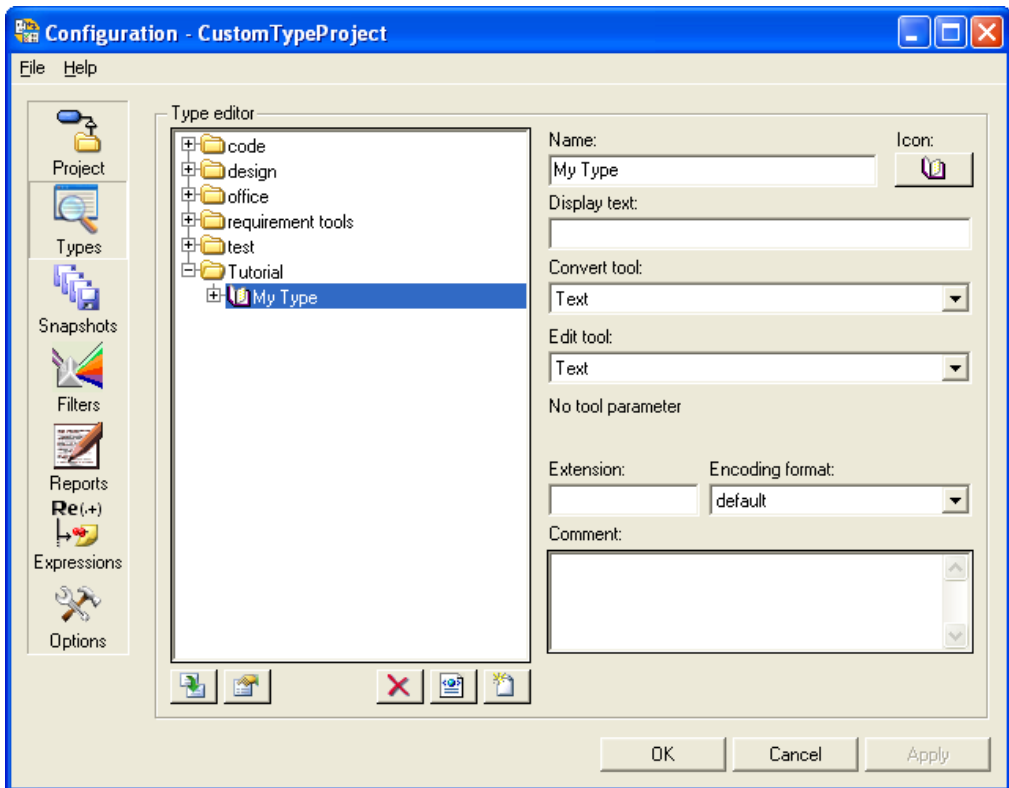

Figure 6-3. New Type Created
6. Select **Text** in the Edit tool ring control to instruct Requirements Gateway to launch the application associated with the file type when you navigate to the document. Figure 6-3 displays the new type.